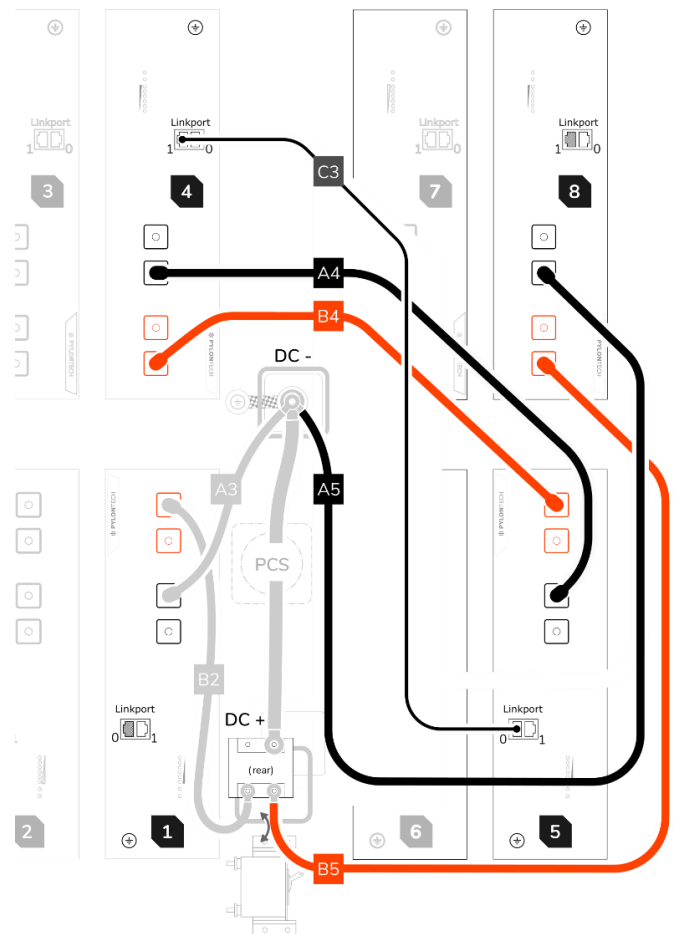

Figure 30: Expansion cabinet DC wiring.
- See section 5.5 (figure 13) – remove the lower DC- cable (referenced A3) from the DC- terminal, and replace with the cable referenced A5 in figure 30 below.